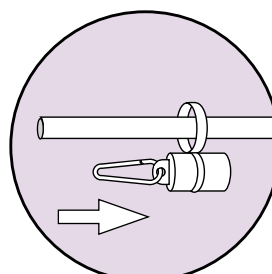
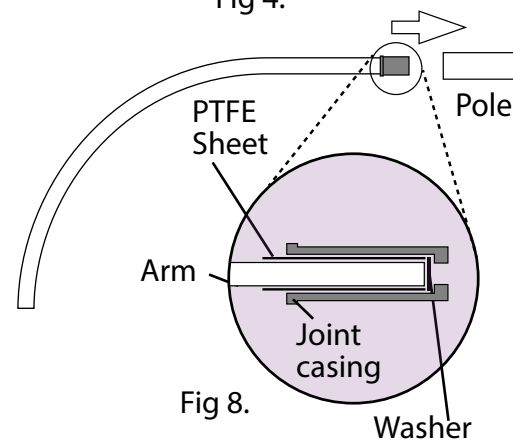

Fig 7.
Fig 8.
10. Place the weight over the main pole. (Fig 7) Ensure that the PTFE sheet lines the inside of the joint casing and the washer is in the bottom before connecting the curved tube with the joint to the main pole. (Fig 8)